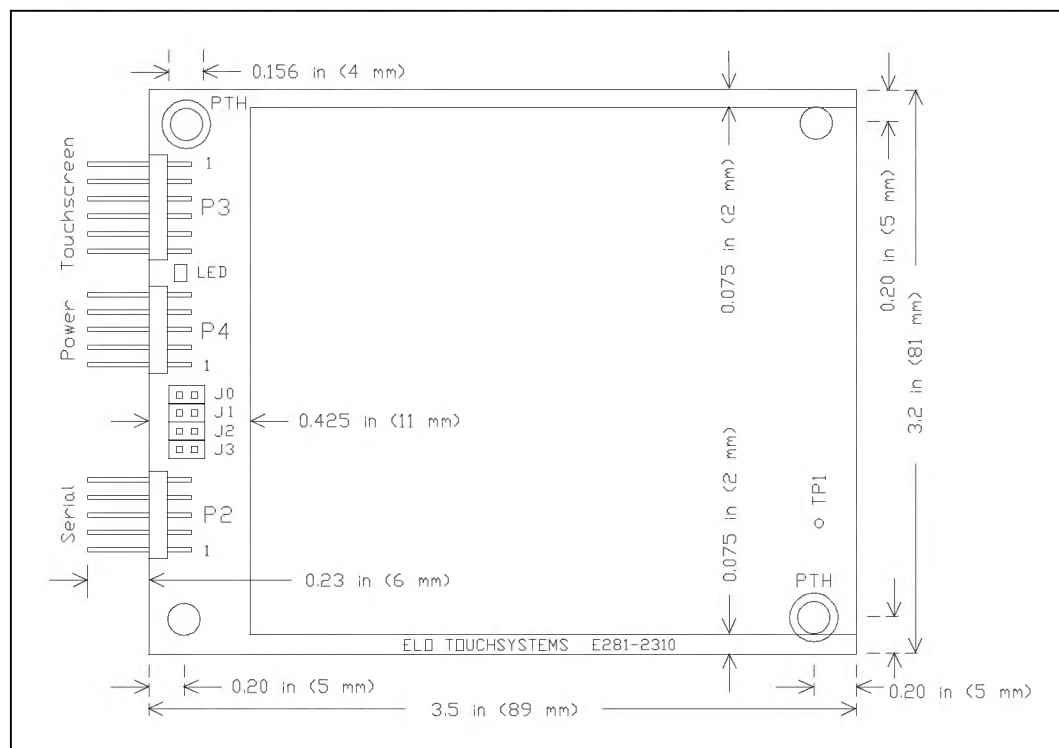

Figure 1. E281-2310 Serial Controller
The mounting dimensions for the E281-2310 controller are shown in Figure 1, page 1. Remember that the cable headers will increase the space required.
- If the controller will be located inside the display, the touchscreen cable connects directly to the 2x6 header at P3 on the controller (see Figure 1, page 1).